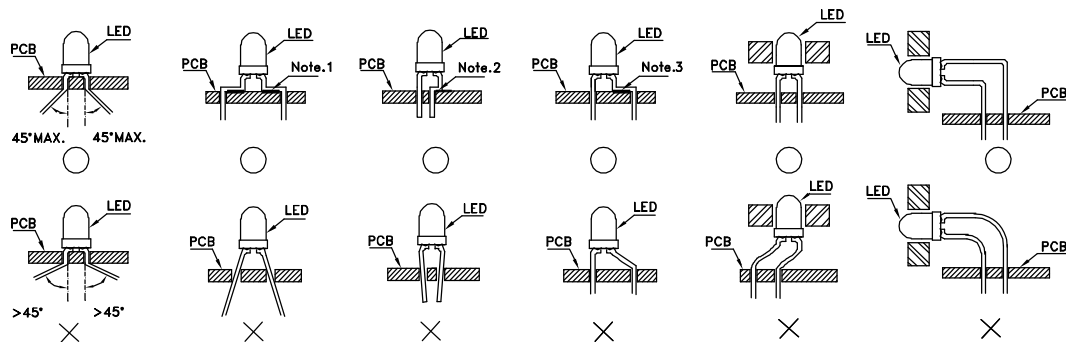

Fig.1
- The lead pitch of the LED must match the pitch of the mounting holes on the PCB during component placement. Lead-forming may be required to insure the lead pitch matches the hole pitch. Refer to the figure below for proper lead forming procedures. (Fig. 1)